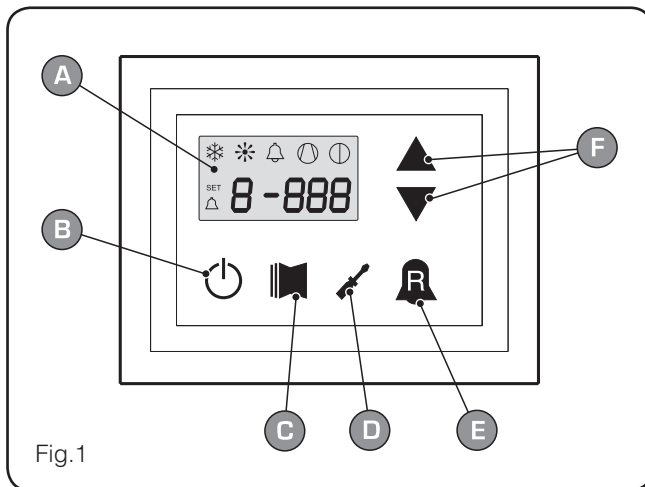

Fig.1
- **READINGS menu (key (C) Fig.1)**
- **SETTINGS menu (key (D) Fig.1)**
- **ALARM log (key (E) Fig.1)**
### User interface (Fig.1)